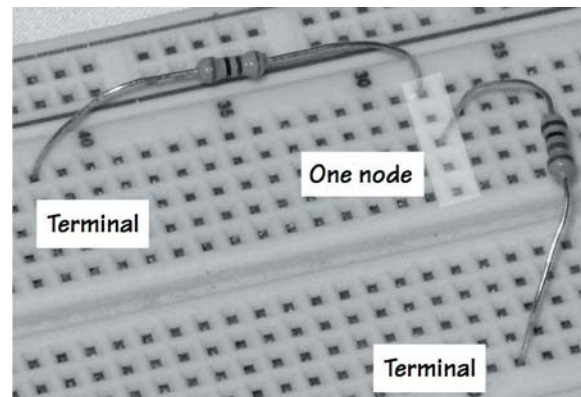

Fig. 6-Two resistors in series
- Figure 6 shows the 300- Ω resistor straddling two sets of five holes and the 1-k Ω resistor straddling the gutter in the middle of the board.